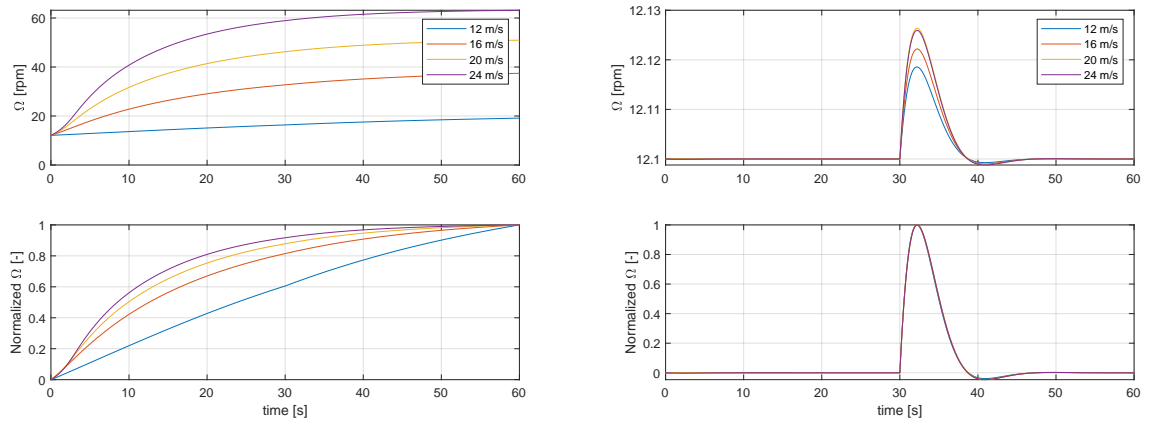

Figure 1: Start (left) and solution (right) of Exercise 3.
With the control parameters in NREL5MWMWDefaultParameter_FBNREL_PitchController.m, the wind turbine remains again uncontrolled, see Figure 1 (left).
The objective is to have a closed-loop transfer function with a damping of 0.7 and a natural angular frequency of 0.5 rad/s at all 4 operation points, see Figure 1 (right).
- d) Please implement the pitch controller in the subsystem `FBNREL/Pitch Controller` in the Simulink model NREL5MW_FBNREL_SLOW1DOF_PitchController.mdl without anti-windup but with gain scheduling (via interpolation) to obtain with Exercise03_PitchControllerTest.m the correct results, see Figure 1 (right). You can use the “Saturation Dynamic” block for the saturation and the “1-D Lookup Table” for the gain scheduling.